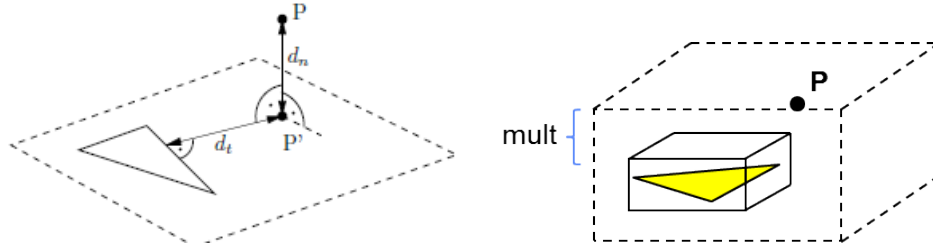

Figure 5: a) Normal distance d_n and tangential distance d_t for a point P b) Multiplicity factor parameter
- **Normal distance** and **Tangential distance** (for surface meshes): searching distance for the closest element in normal and tangential direction (Figure 5).
- Multiplicity: parameter to control the search distance (Figure 5).